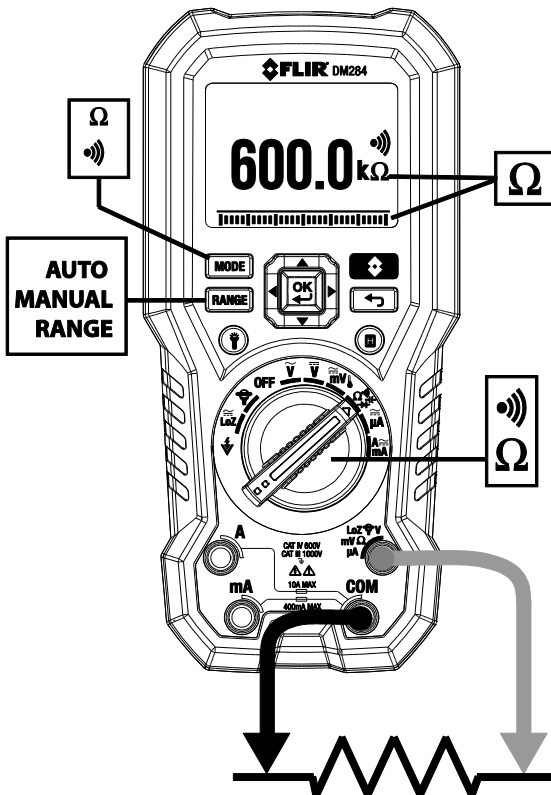

Fig. 7-3 Resistance and Continuity Measurements
1. Refer to **Fig. 7-3**. Set the function switch to the  position.